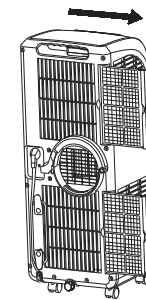

Figure 13
- 1). Hold the gripping position of the evaporator filter frame and the condenser filter frame and take out the filter frame gently in the direction shown by the arrow (as shown in Figure 13).